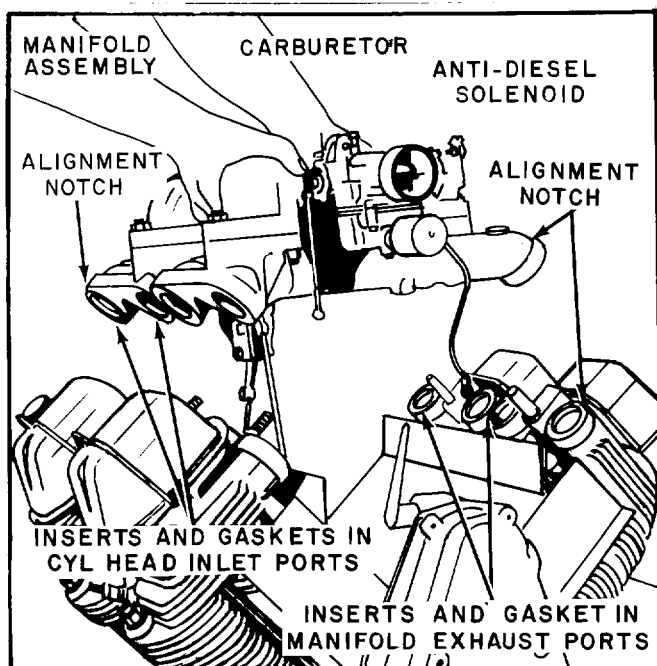

Fig. B-35
**MANIFOLD AND CARBURETOR (Fig. B-35)**
Disconnect fuel line at carburetor and control rod at governor lever. Unhook governor spring and remove the 4 nuts and clamp washers which secure the manifold to the cylinder heads. The two manifold branches, carburetor and speed control bracket assembly can be lifted off as a complete unit. See Fig. B-35.